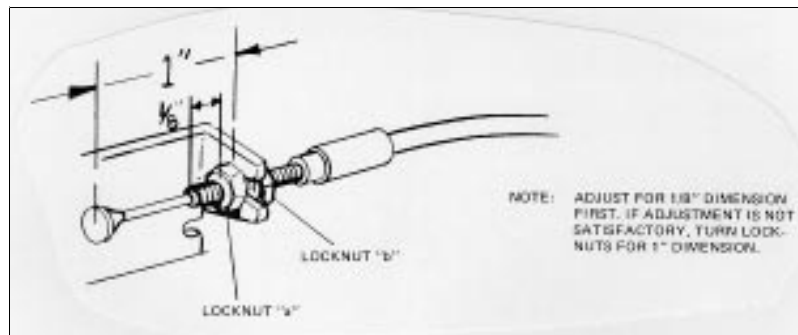

Figure 5-18. Adjusting the "Pre-View" Shutter Cable (Sliding Camera Head)
1) Refer to figure 5-18. Set locknut "a" about 1/8 inch from the end of the threaded cable housing. Open locknut "b" enough to let the two locknuts straddle the slotted bracket.
6) If the carriage will not lock or if the shutter does not open fully when the head is full right, turn the locknuts to get the one-inch dimension show in figure 5-18.